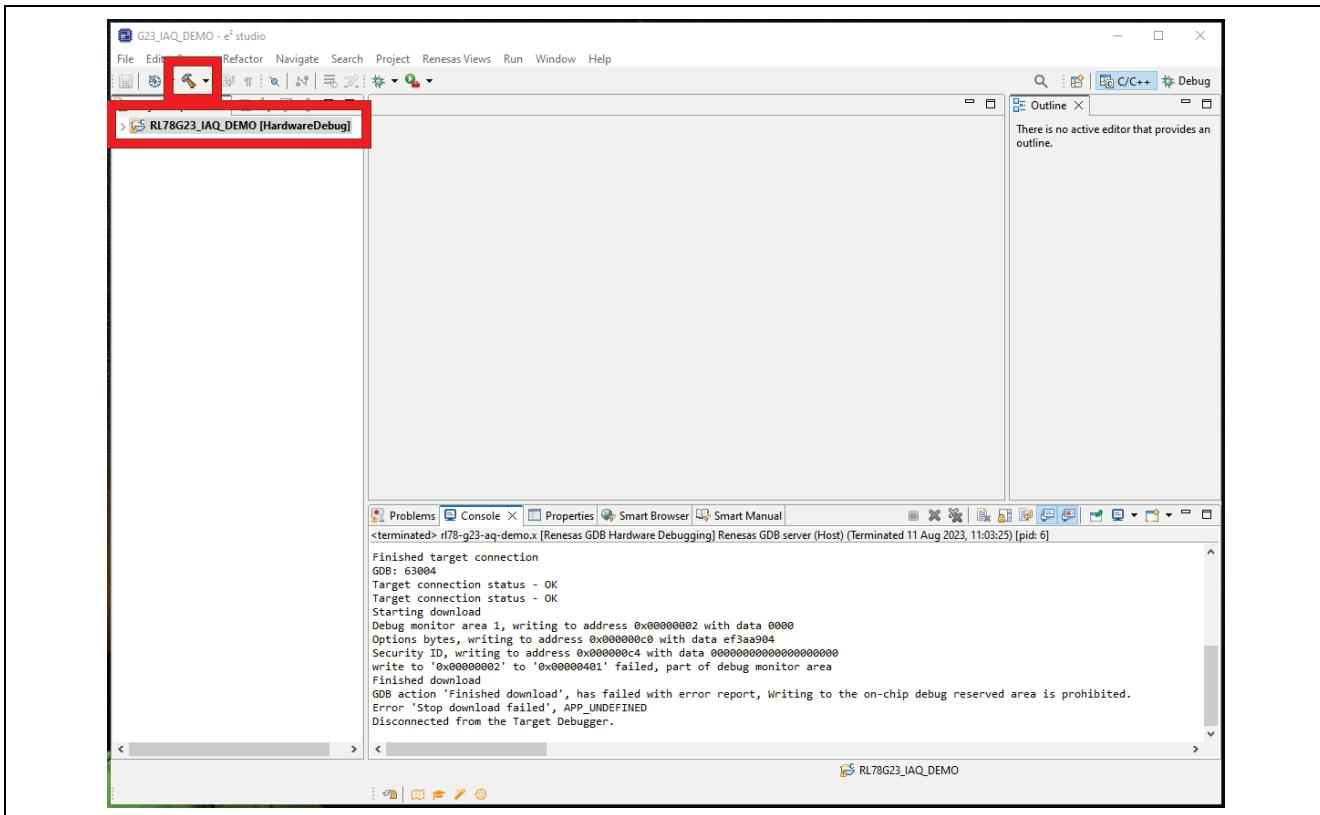

Figure 8. Build Method 3
- **[Left-click]** the project and click (Figure 8)